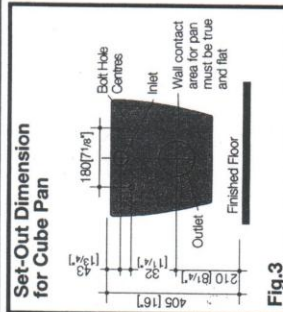

Fig.3
- 1- Install Caroma bracket and pipework to specified dimensions, as detailed in Fig.3.